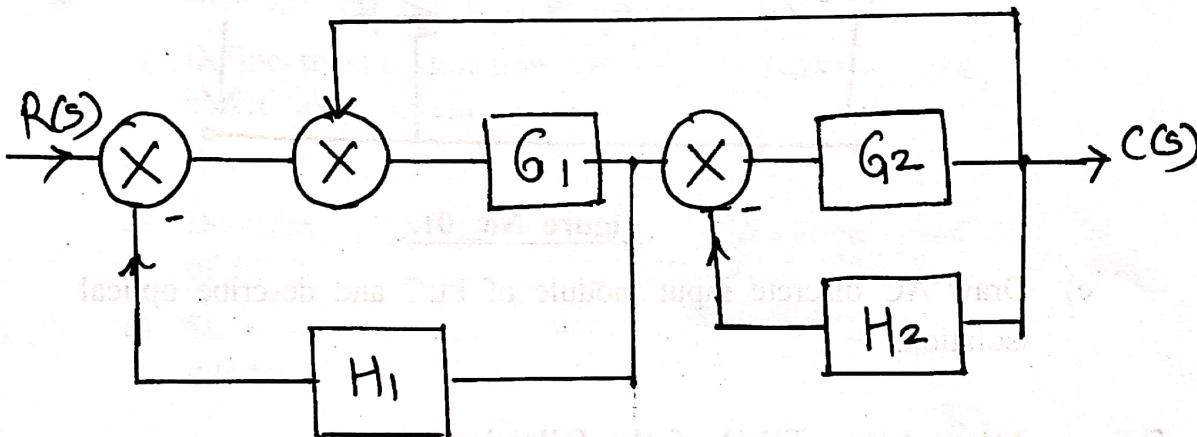

Figure No. 02.
- Obtain transfer function for the system given in Figure No. 02 using block diagram reduction technique.